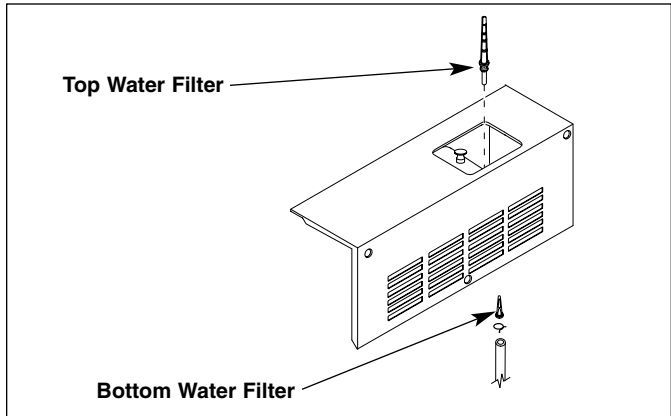

Figure 9. Water Filters—MS-150/155
To prevent solids or food products from entering the water pump, the unit uses two water filters (Figure 9). Inspect and clean (if necessary) these filters monthly using the following procedure:
4. Remove top filter located inside the tank by pulling it out (Figure 9).
5. Remove bottom filter located in water tank outlet tube by disconnecting the hose from the outlet and removing filter (Figure 9).